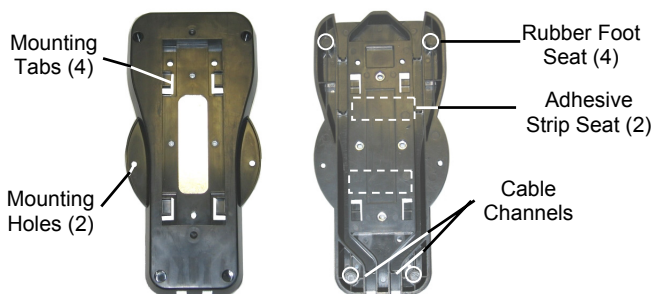
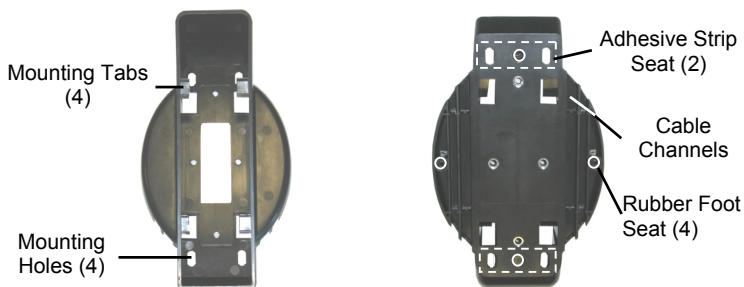

Figure 3 - Horizontal Base Top and Bottom View
Figure 4 - Inclined Base Top and Bottom View
1. Referring to Figure 3 and Figure 4, carefully clean the rubber feet seat of the base to remove any impurities that could reduce adhesion.
2. If desired, position the cables to be connected to the cradle in the dedicated channels (see Figure 3 and Figure 4).
1. If desired, position the cables to be connected to the OM-30X0 cradle in the dedicated channels (see Figure 3 and Figure 4).